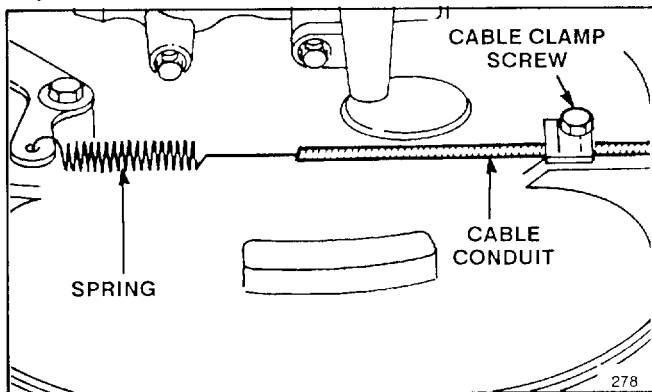

Figure 21
2. Loosen cable clamp screw until brake cable conduit slides (Fig. 21). Pull cable to remove slack, but do not put tension on spring. Tighten screw to lock adjustment in place.